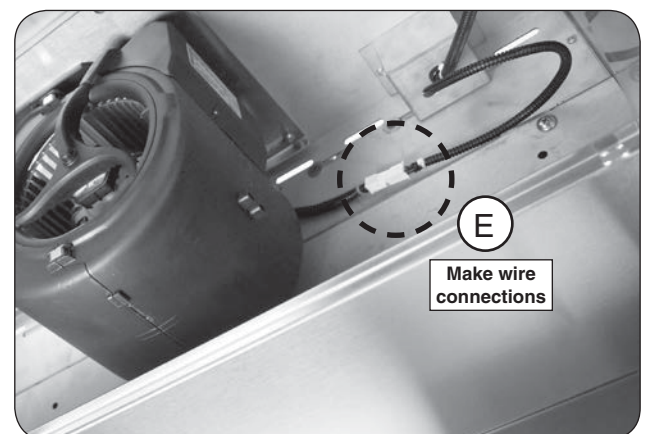

Fig. 17-4 Connect fan assembly wire
1. A wire connection exists toward the right rear of the fan assembly. Connect it to the wire harness coming out the right rear of the vent hood. See Fig. 17-4, E.